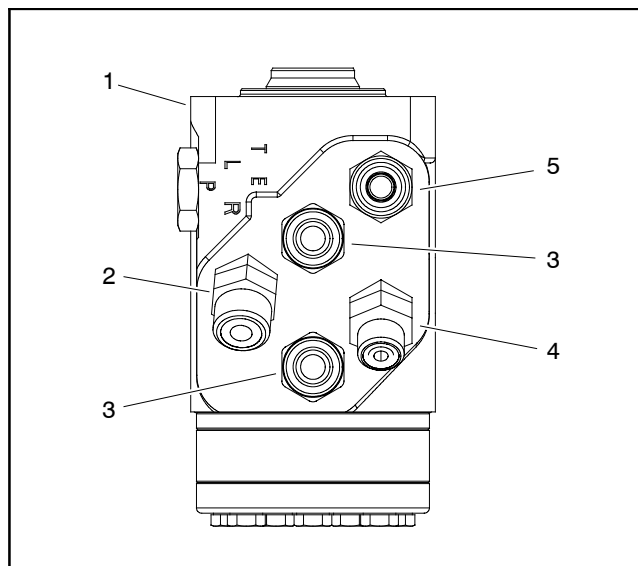

Figure 80
7. If hydraulic fittings are to be removed from steering control valve, mark fitting orientation to allow correct assembly. Remove fittings from valve and discard O-rings (Figs. 80 and 81).
1. If fittings were removed from steering control valve, lubricate and place new O-rings onto fittings. Install fittings into port openings using marks made during the removal process to properly orientate fittings (Figs. 80 and 81). Tighten fittings (see Hydraulic Fitting Installation in the General Information section of this chapter).